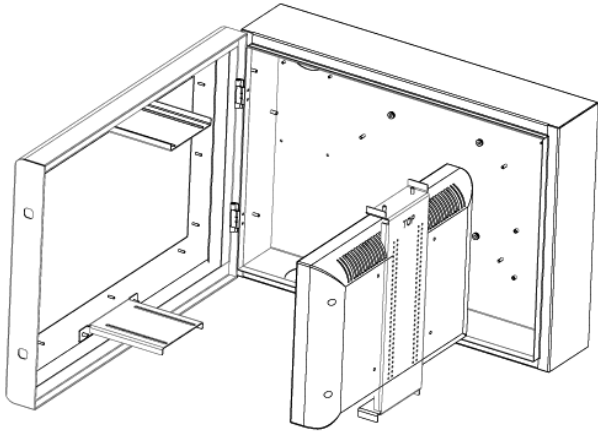

Figure4
STEP 8: Using the diagram shown in Figure4, fasten the LCD bracket to the inner door using the screws already provided (M6 Nylock Nuts & Washers).